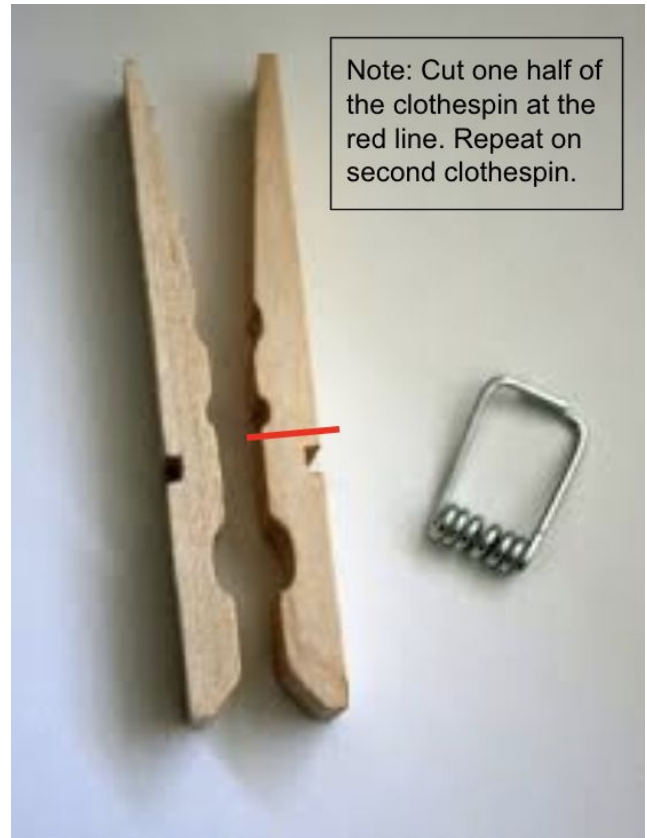

Figure 8
14. Cut half of one side of each clothespin (See Figure 8)